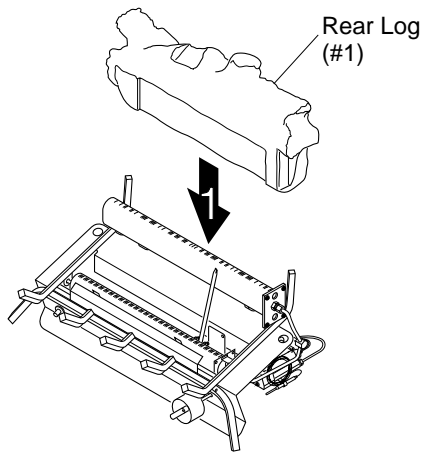

Figure 18 - Installing Rear Log
1. Slide rear log (#1) into place behind rear burner (see Figure 18).